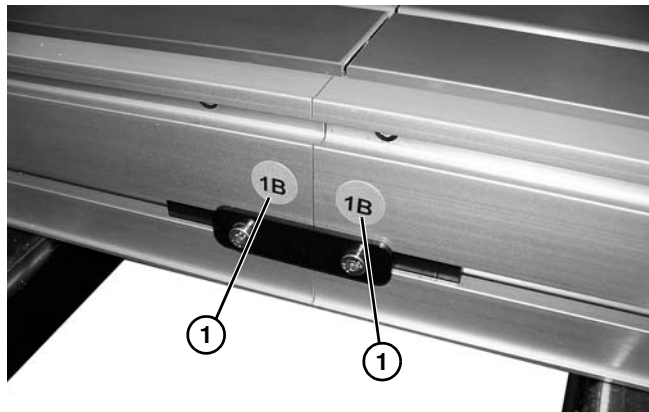

Figure 5
1. Locate and arrange conveyor sections by section labels (**Figure 5, item 1**).